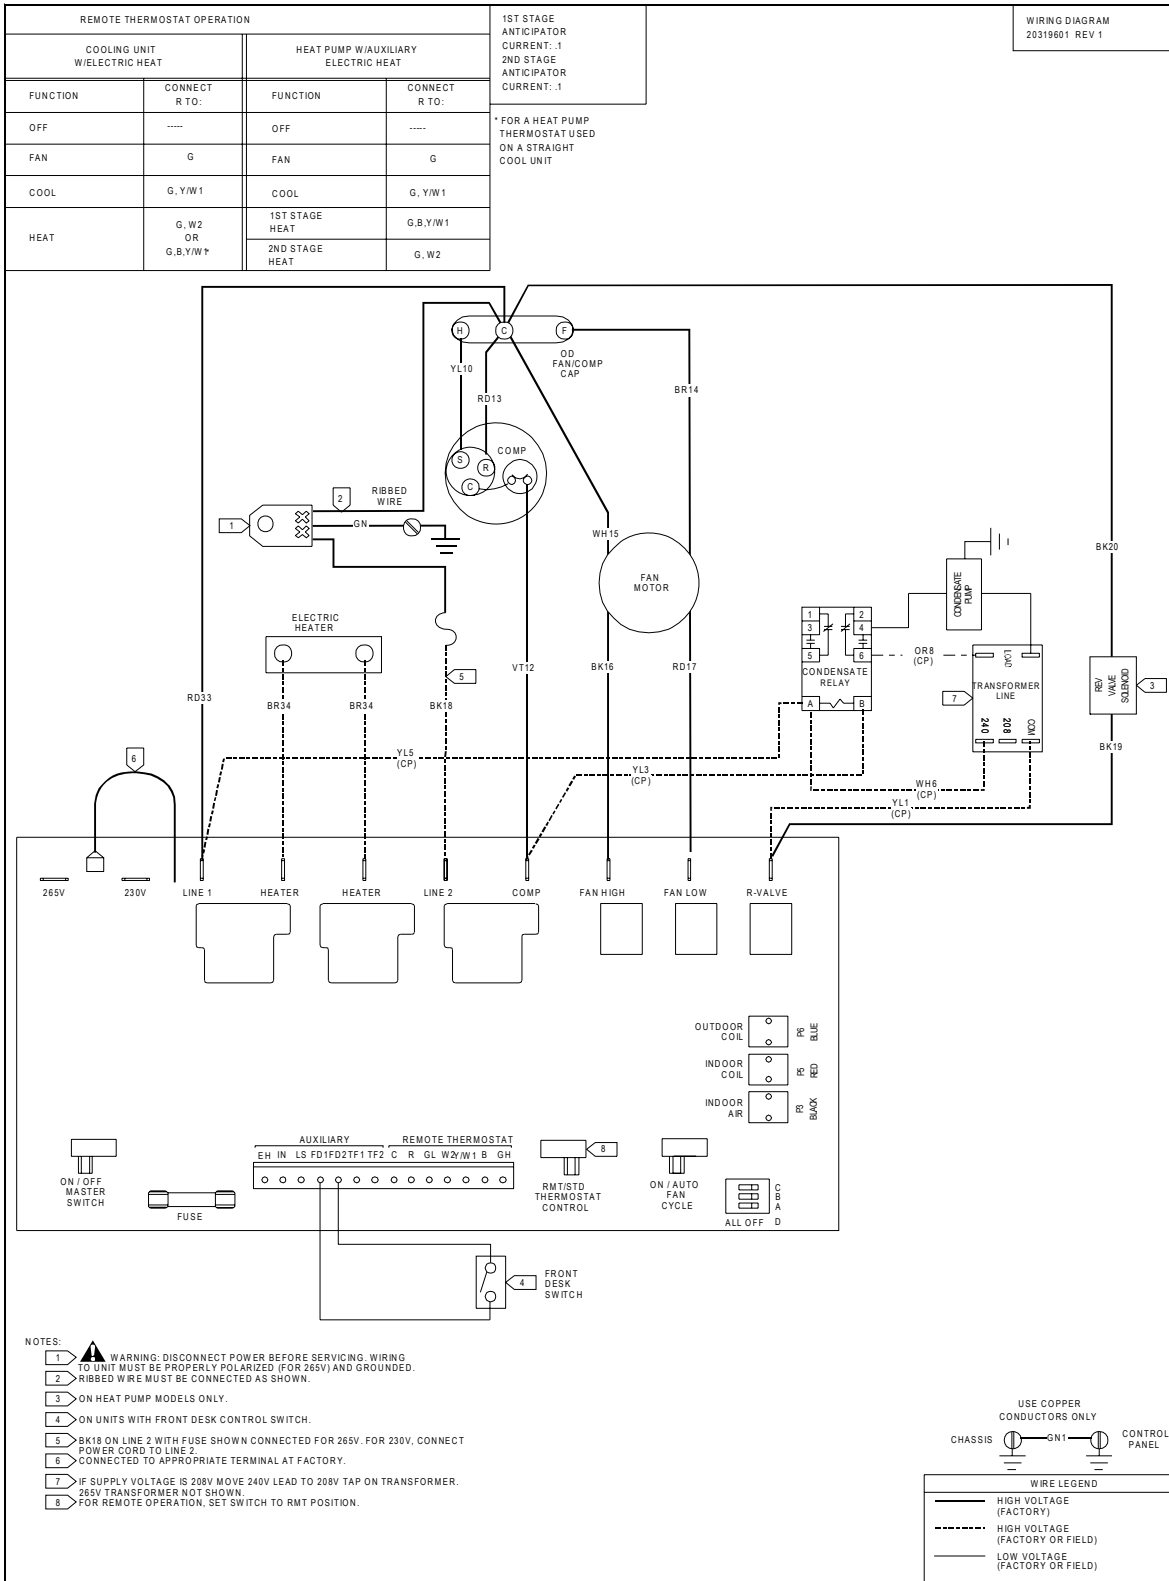

**Figure 10**
17. To gain access inside the control panel, remove the knobs and escutcheon. Remove the three screws holding the panel in position. Tilt the control panel forward, being careful not to pinch any wires (Figure 10).
18. Lift the control panel up so the control panel is free of its hinges. Orient the control panel so there is easy access for mounting components to the control panel (Figures 10 and 11).